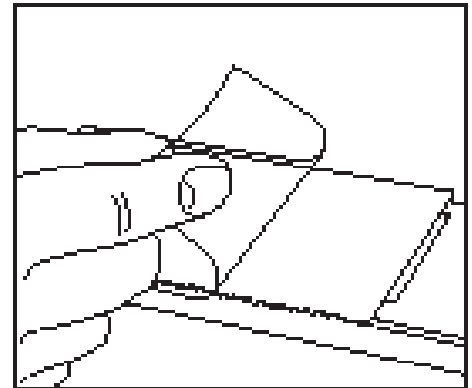

Fig.15
5. Remove the clear protective film from the back of the Velcro (**Fig.15**). Carefully place the Awnbrella arm back into position, pressing it firmly against the awning fabric.